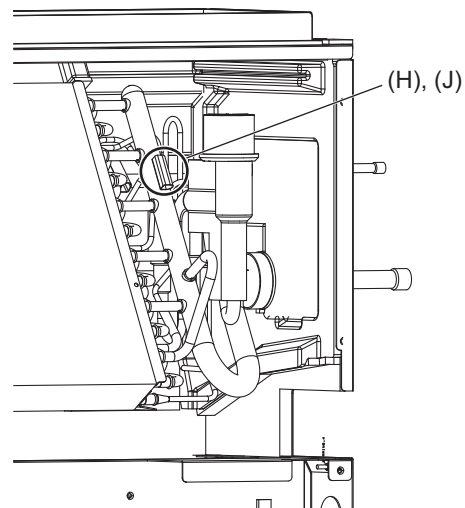

Fig.15
- (5) Remove the thermistor (H) from the thermistor holder (J) on the copper tube. (Fig.15)